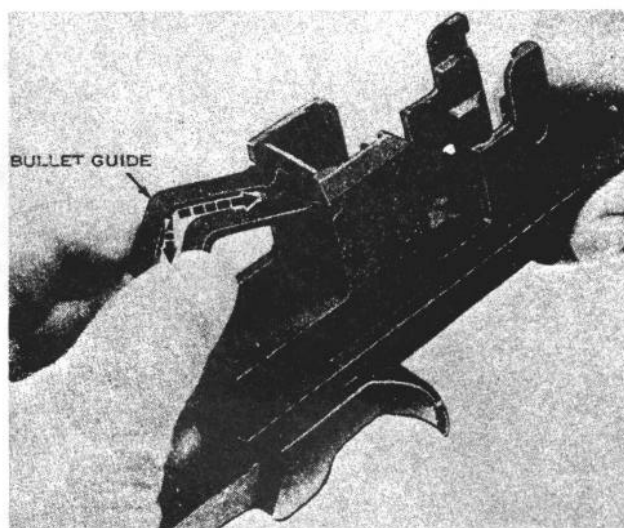

Figure 13. Replacing the bullet guide.
f. Replace the bullet guide so that its shoulders fit into their slots in the receiver and the hole in the toe of the bullet guide is alined with the holes in the receiver (fig. 13).